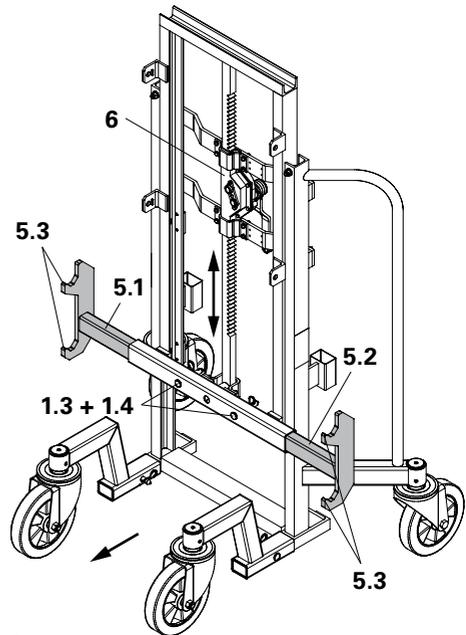

Fig. 25
(Fig. 25)
2. Pre-adjust Connector height with the Winch (6). (Fig. 25)